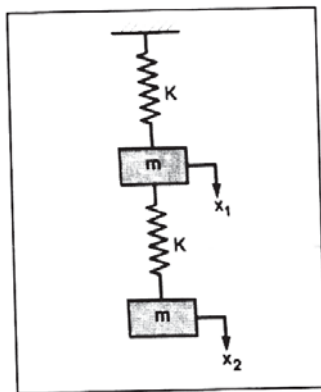

Fig. 6b
- b)** For a spring-mass system shown in Fig. 6b, find Eigen values and Eigen vectors by matrix method. [10]